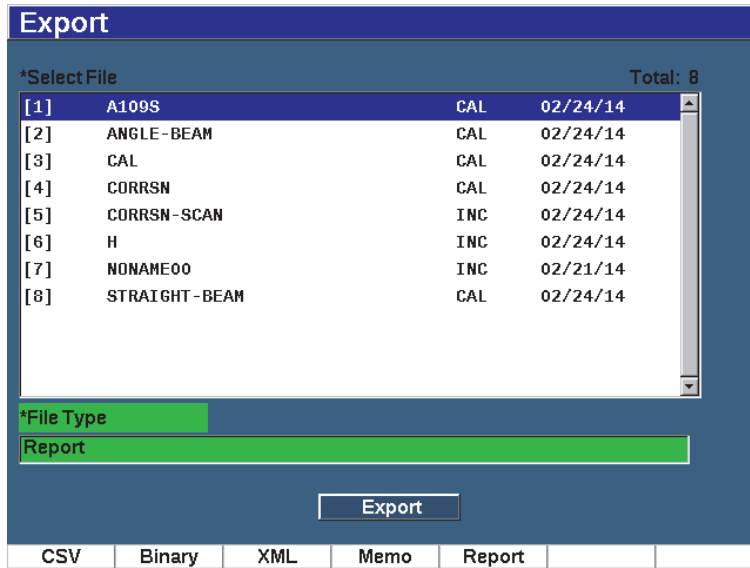

Figure 10-19 Export setup page
1. Press **Export**, (P2 key) to display the **Export** setup page (see Figure 10-19 on page 223).